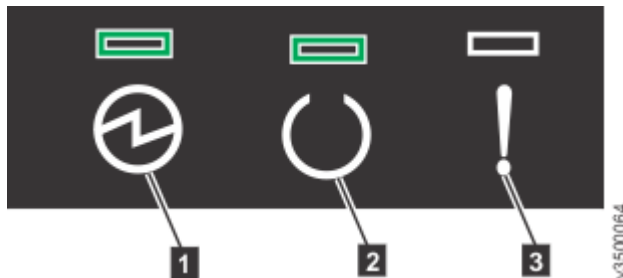

Figure 34. Expansion enclosure LEDs
2. From the rear of the rack, check the LEDs on each expansion enclosure (see Figure 34 on page 74).